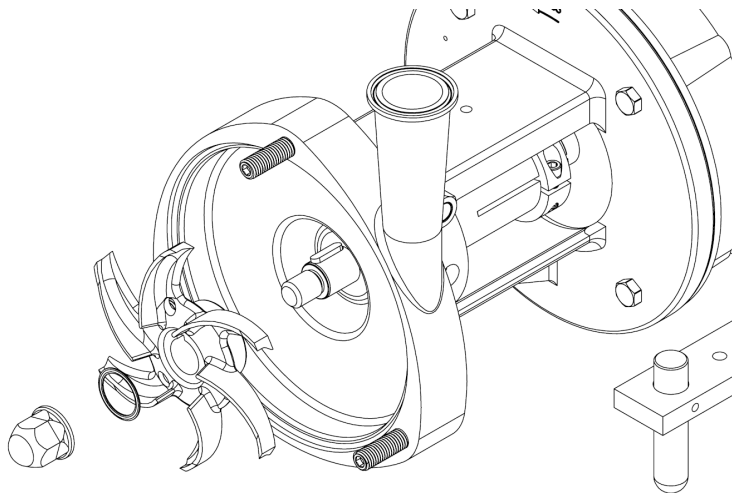

Figure 3
5. Remove the impeller nut, the impeller nut gasket, impeller, then the key. This process can be seen in Figure 3. The seal driver may be pushing against the key. With one hand push the seal driver into the casing with index and middle finger on opposite sides of the shaft. Then with your free hand remove the key.